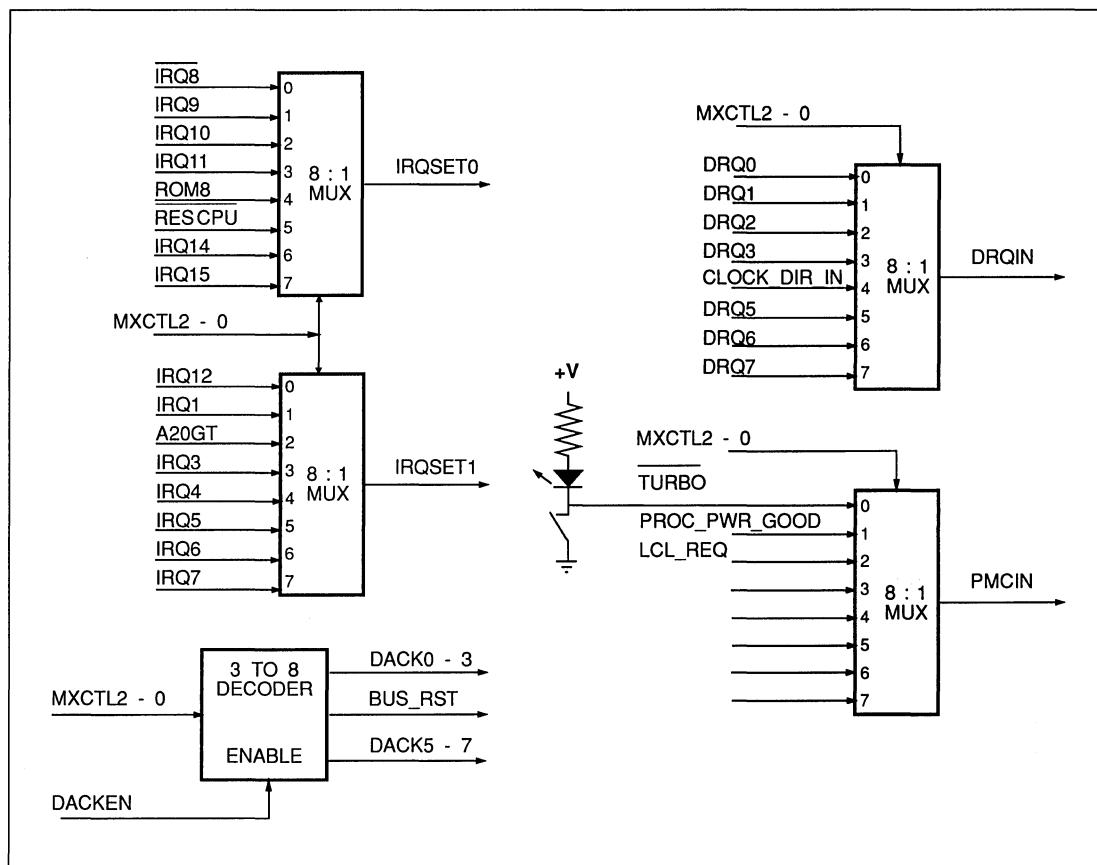

FIGURE 5-1. MXCTL2-0 MULTIPLEXING
* Based upon the value of CLOCK_DIR_IN at power up (refer to Table 5-1, Figure 5-1 and section 5.1.2).
To reduce the number of pins required, the System Controller generates and outputs the MXCTL2-0 and DACKEN signals used by external logic to multiplex the DACKs, DRQs and IRQs down to single inputs. See Figure 5-1.
Immediately following a System Reset (RSTIN), DRQIN input 100 is sampled. If low, the processor clock (CPUCLK) pin is an output. If high, the CPUCLK starts as an output but is switched to an input shortly after RSTIN is de-asserted. See Table 5-1 and Figure 5-1. This controls the default value of CLK_SPD in the CPU Clock (CPUCLK) Control Register at Port 1072H. See section 4.2.4.
The Interrupt Requests are multiplexed by the WD76C30. The multiplexing is performed as shown in Table 5-1 and Figure 5-1, and provides the System Controller with the IRQSET1 and IRQSET0 signals.
The power control signals are placed on the PMCIN input pin by way of an eight to one multiplexer, controlled by the MXCTL2-0 signals from the System Controller. In the WD76C10A, the TURBO signal may be connected directly to PMCIN. In the WD76C10ALP, the external 8:1 MUX is always used. See Figure 5-1. Bits 14 and 13 of Port 1872H (Section 5.3) control the power down of the processor and peripheral.
When a PMC interrupt occurs, PMC output 7 at Port 7072H is reset, enabling the power up sequence. A CPURES and BUS_RST (see Figure 5-1) are asserted until the PMCIN 01 PPG at Port 8872H input is high. The tristated outputs are restored and the inputs are no longer masked.